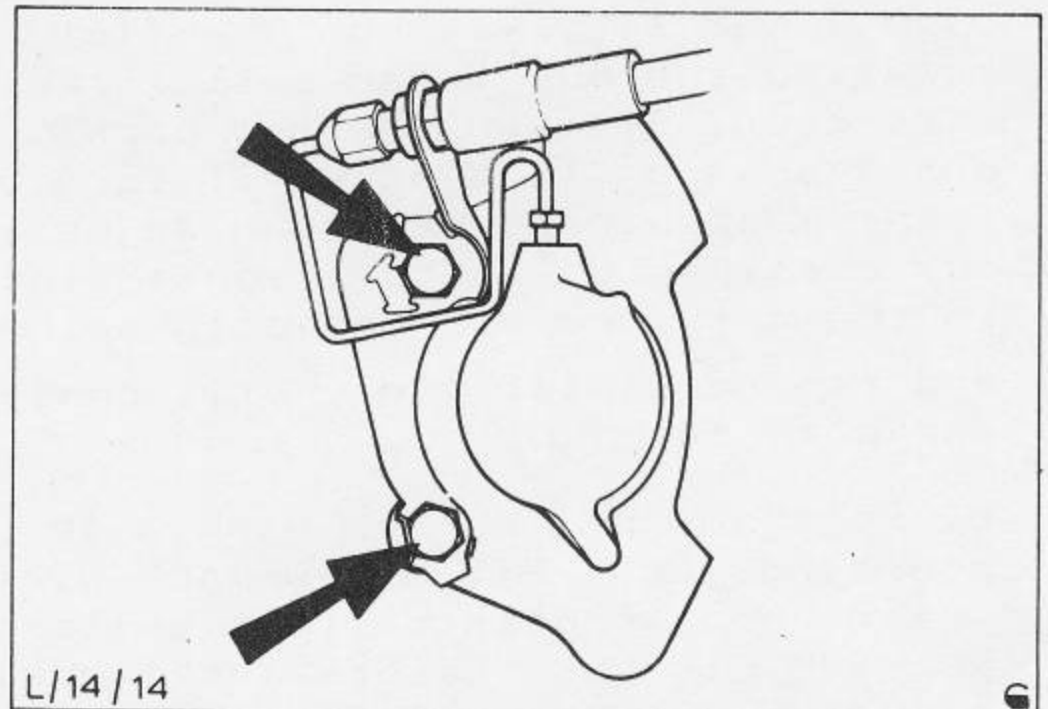

Fig.16. Caliper retaining bolt location.
3. Bend back the lock tabs, remove two caliper bolts and detach caliper assembly. Support or tie the Fig.16 assembly to prevent it's weight being taken by the flexible hose.